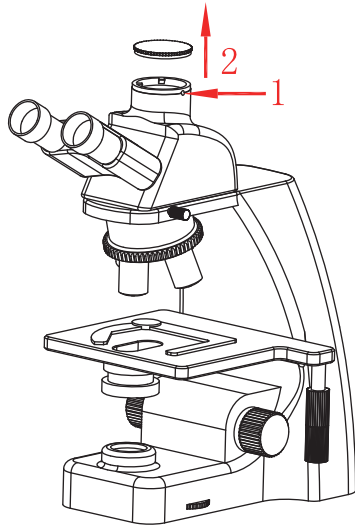

Figure 1
- (1) Remove the dust cover of microscope dovetail slot or standard C -mount, as shown in Figure 1.